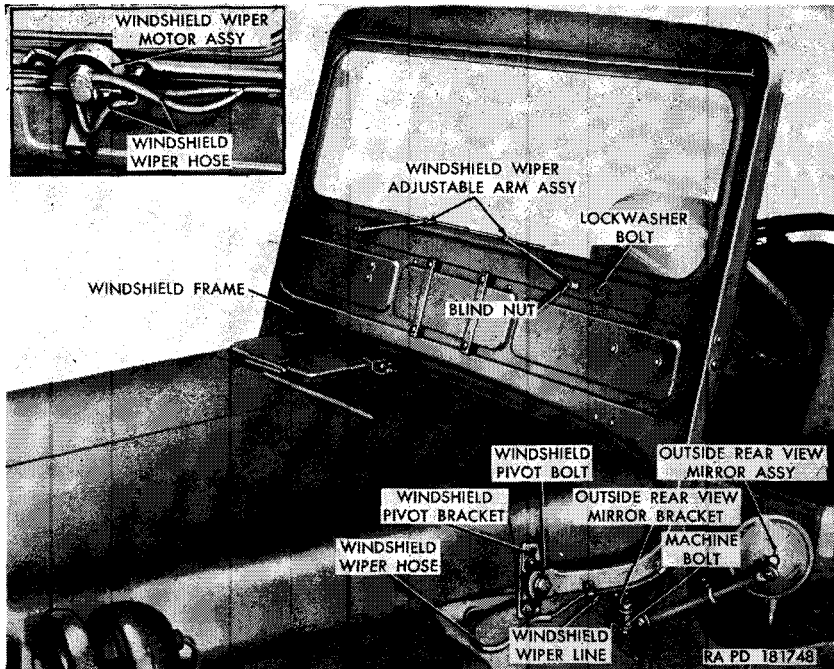

Figure 126. Windshield, windshield wiper motor assemblies, and outside rear view mirror assembly.
*b. Removal.* Pull the windshield wiper hose off the windshield wiper line (fig. 126) at each side of the vehicle. Unclamp the two windshield lock assemblies (N, fig. 7) and place windshield in lowered position. Unscrew the windshield pivot bolt (fig. 126) and remove the windshield pivot bolt flat washer and windshield pivot bolt spring washer from the windshield pivot bracket on each side of the vehicle. Lift the windshield off the vehicle.
*c. Installation.* Place the windshield, in the lowered position, over the hood and cowl. Aline the mounting holes in the windshield frame with the mounting holes in the windshield pivot bracket (fig. 126). Install a windshield pivot bolt flat washer on the windshield pivot bolt and push the pivot bolt through the mounting hole in the windshield frame. Install a windshield pivot bolt spring washer on the pivot bolt between the windshield frame and windshield pivot bracket. Screw the pivot bolt into the bracket and tighten. Repeat procedure on other side of vehicle. Raise the windshield and secure windshield lock assemblies (N, fig. 7) to
the two locking clamps on the windshield frame. Slide the windshield wiper hose onto the windshield wiper line (fig. 126) at each side of the vehicle.
(fig. 126)
*b. Installation.* Working inside the vehicle, insert the shaft of the windshield wiper motor paddle through the hole in the windshield frame. Push the windshield wiper hose onto the lines of the windshield wiper motor assembly. Working outside the vehicle, secure the windshield wiper motor to the windshield frame with two No. 10 x  $\frac{7}{8}$  lockwasher bolts. Position the windshield wiper adjustable arm assembly on the projecting shaft with the windshield wiper blade parallel to the windshield frame as shown in figure 126. Secure the wiper arm to the motor shaft with a No. 10 blind nut. Start the engine and test windshield wipers for proper operation.